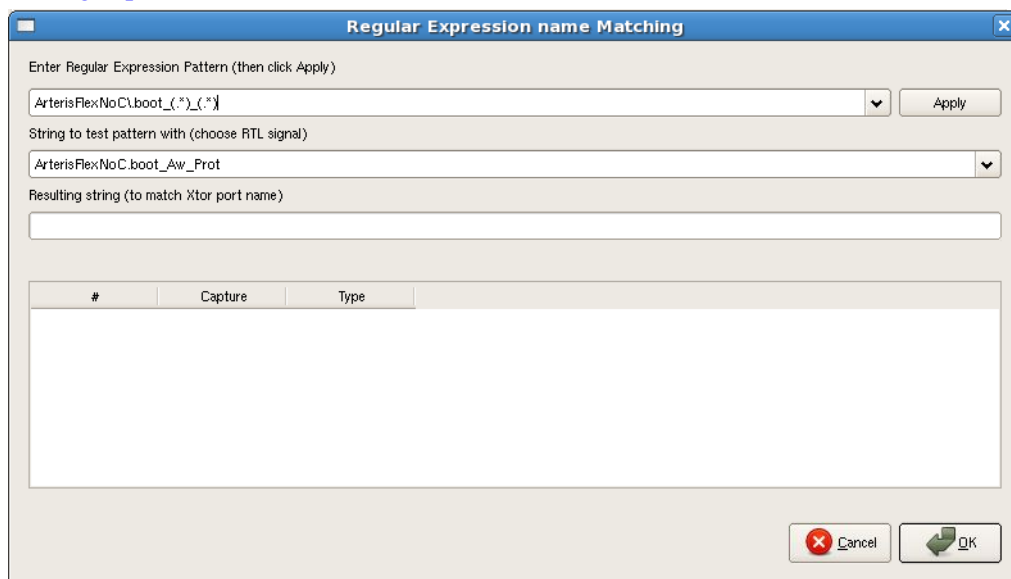

Figure 5-21 RTL signal and regular expression specified
3. Click the *String to test pattern with* pulldown to select one of the RTL signals you want to match (Figure 5-21). This is used to test and verify your regular expression output.
4. In the *Enter Regular Expression Pattern* field, specify the regular expression to use (Figure 5-21). For details about using regular expressions, refer to the QT® Developer Network QRegExp Class Reference.